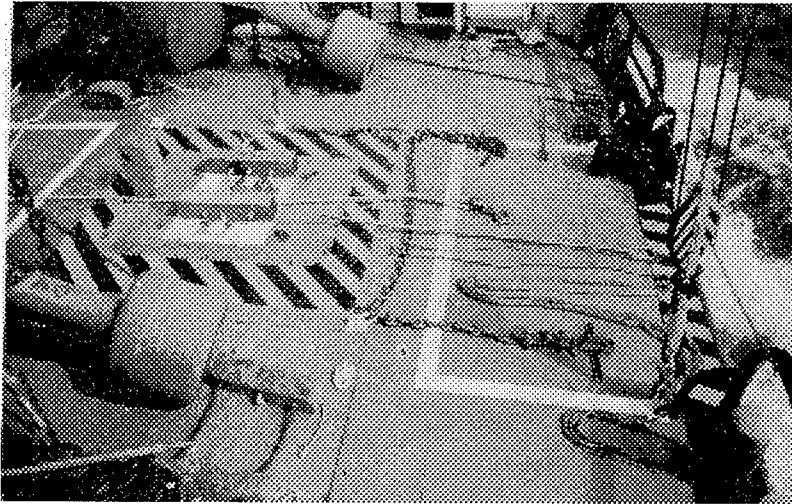

Fig. 8-1 Buoy deck layout when approaching a buoy
- (1) Check all buoys and equipment thoroughly before leaving the dock. Bench test all the lanterns and lamp changers, with a few extra of each characteristic, before sailing for a reasonable period to insure reliability.
- (2) Install the lanterns on the buoys early enough to insure they are functioning properly. A final quality check should be made at this time. This should make sure that the installation was done properly and the correct characteristic and lamp size used.
- b. Beginning with and maintaining a clean, organized deck will help to keep the evolution safe. Lay out the blocking chocks, or saddles for the buoys in the positions in which it is planned to secure the buoys. Having regard for the location of available padeyes for gripping down (see **Fig. 8-1.**)
Fig. 8-1 continued Buoy deck layout when approaching a buoy